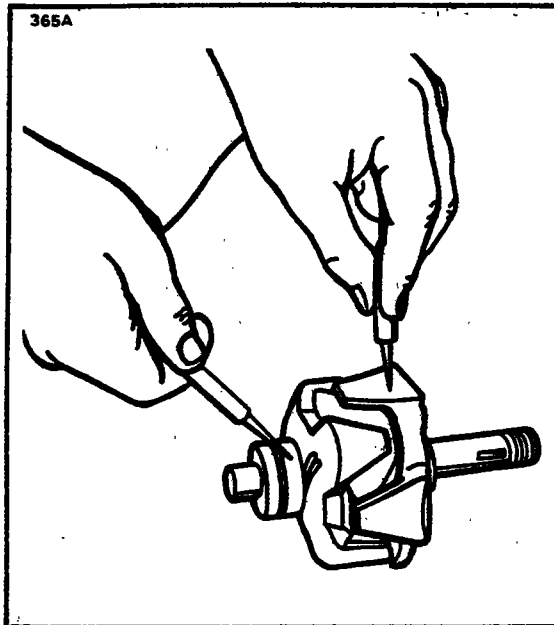
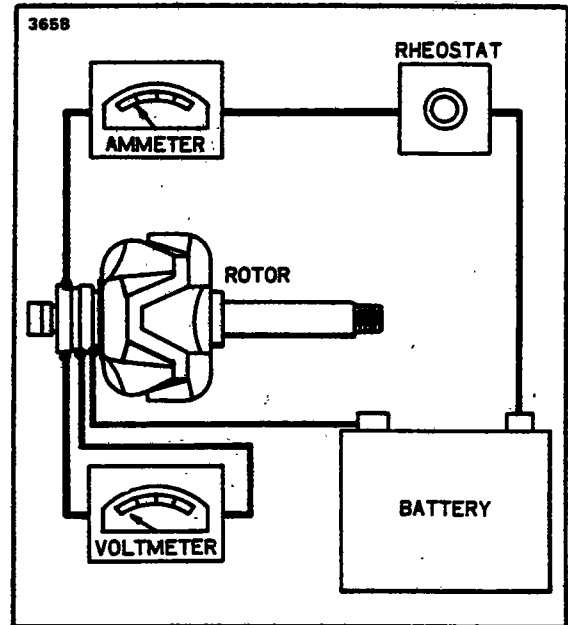

Figure 11-76. Testing Rotor for Ground
Figure 11-77. Testing Rotor for Shorts
a. **Rotor:** The rotor should be tested for grounded or shorted windings. The ground test can be made with test probes, connected in series with a 110 volt test lamp, an ohmmeter or any type of continuity tester. (Refer to Figure 11-76.) There must not be any continuity between the slip rings and the rotor shaft or poles. To test for shorted turns in the rotor winding, connect a voltmeter, ammeter and rheostat as shown in Figure 11-77, or use an ohmmeter. Rotor current draw and resistance are listed in the Alternator Service Test Specifications paragraph. Excessive current draw or a low ohmmeter reading indicates shorted windings. No current draw or an infinite ohmmeter reading would indicate an open winding.